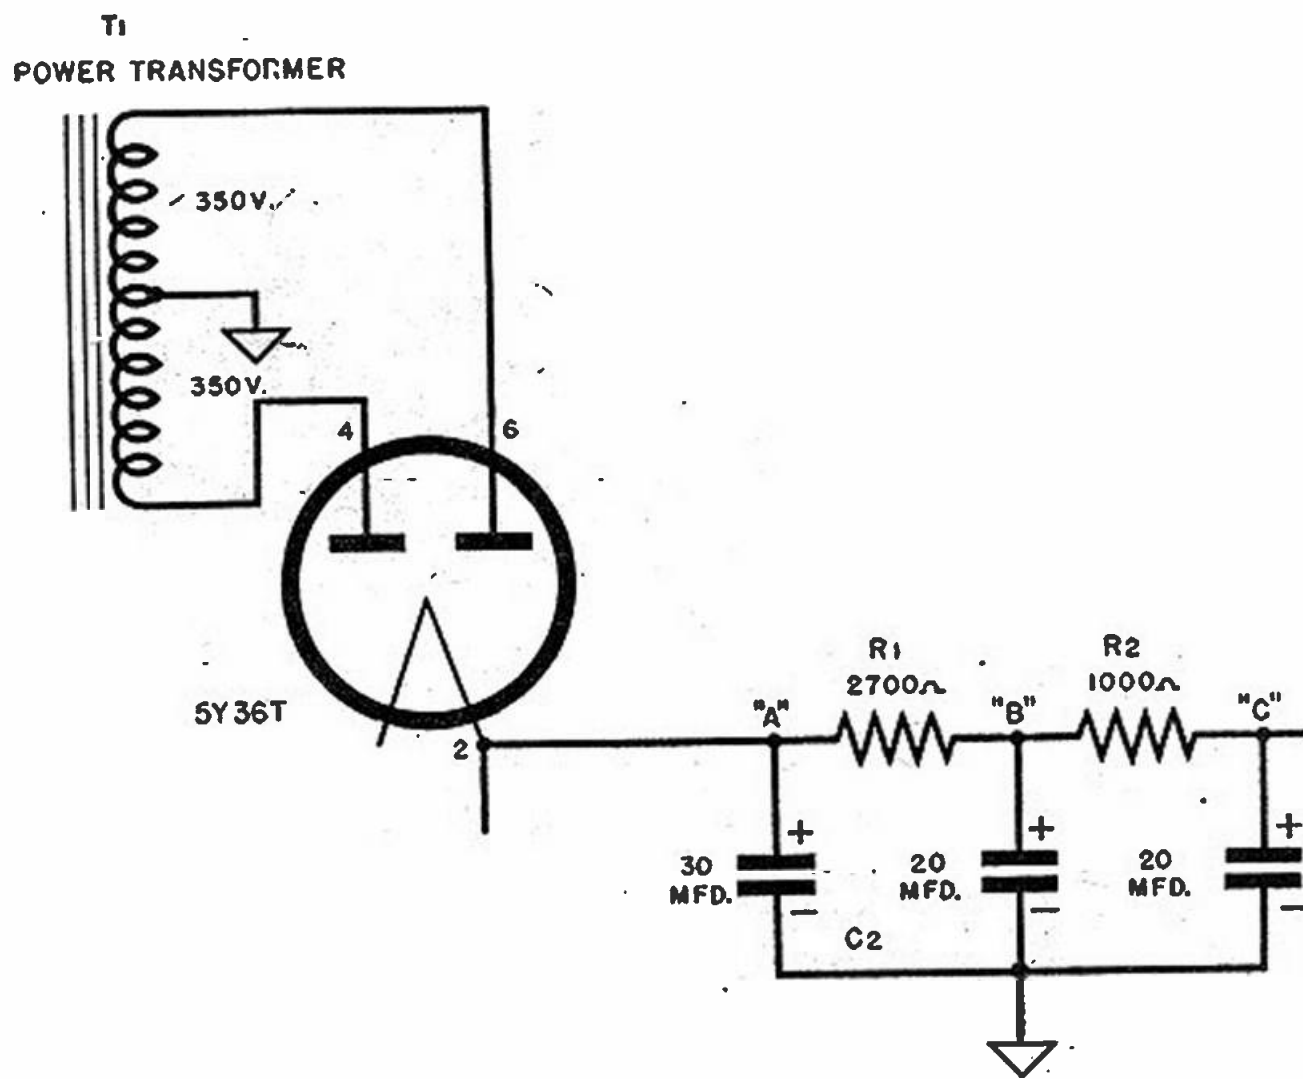
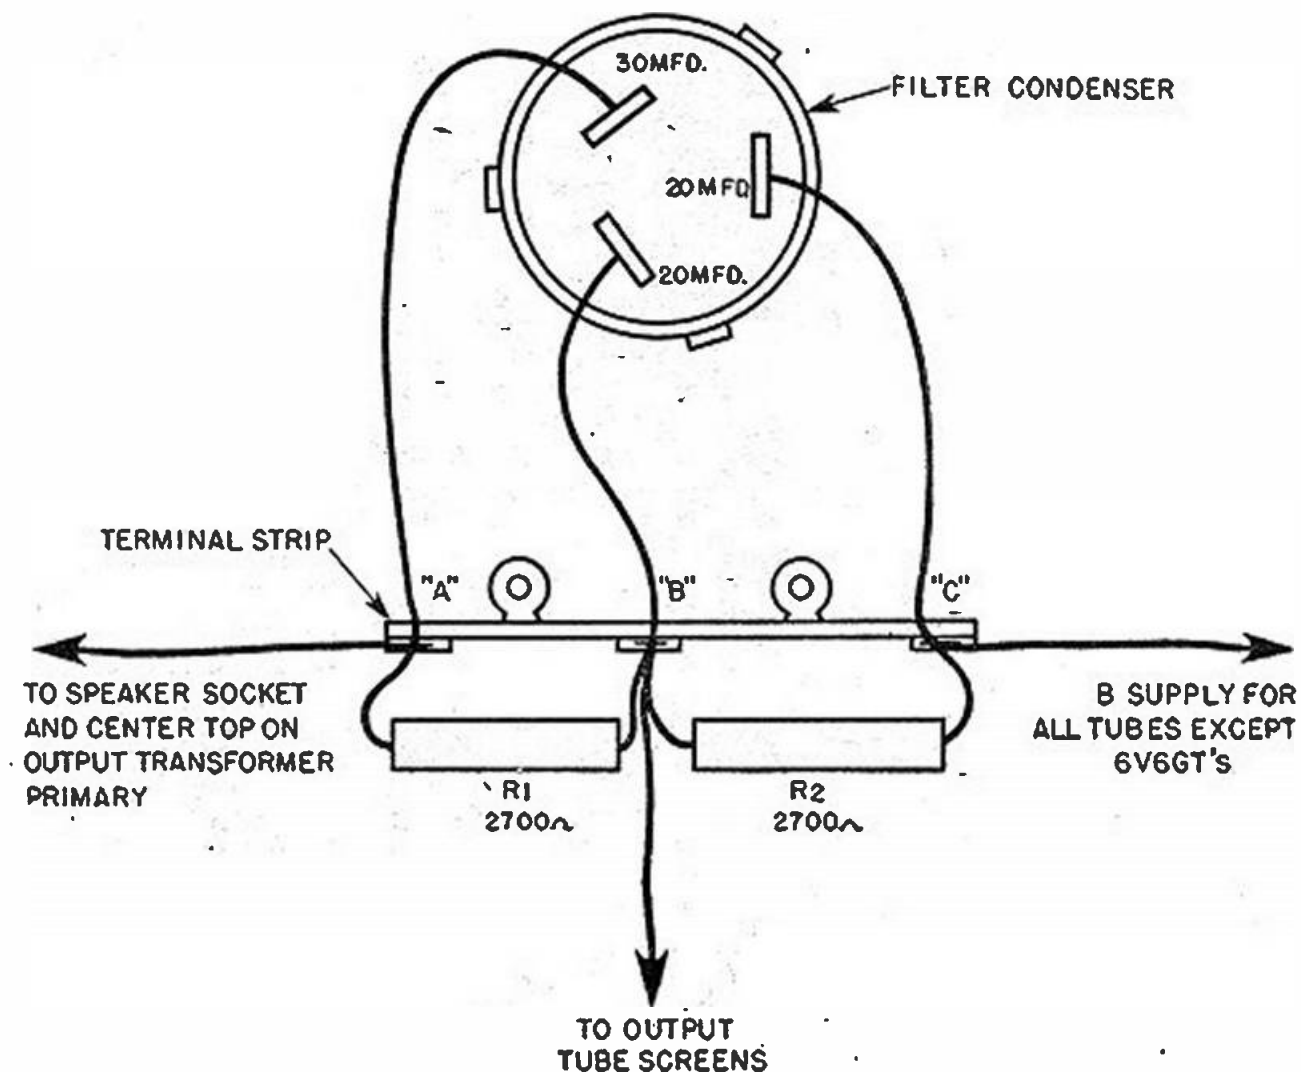

Fig. 2-31. Wiring the power supply.
Fig. 2-32. Wiring the filter resistors and condensers.
b) *Power Supply.* See Figure 2-31. Wire as shown in the sketch. The high voltage leads will probably be red, the center tap red and yellow. Be sure to connect the three units of the filter condenser exactly as shown. The coding of the sections will be marked on the condenser can. Refer to Figure 2-32 for additional details on the wiring of the filter resistors and condensers.